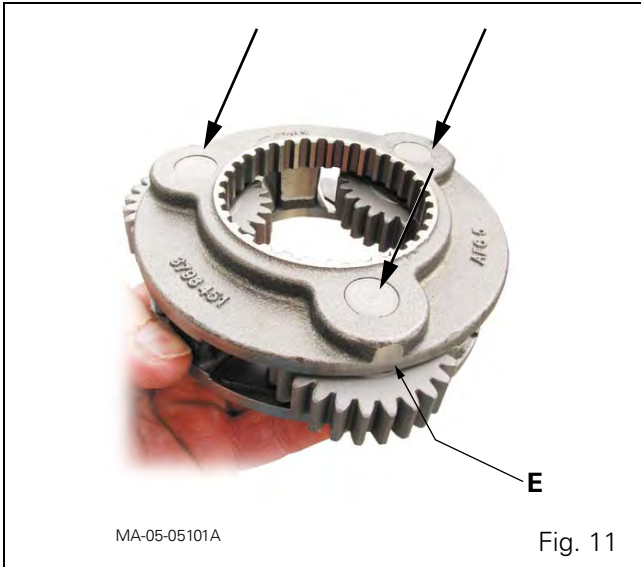

Fig. 11
20. Position the input planet carrier (1) under a press and on top of a plate pierced with a hole to allow removal of the pins (12).
21. Drive out a pin using the press and a makeshift drift ($\varnothing$ 12 mm) in the direction of the arrows (Fig. 11).
NOTE: The pin is force fitted into part E of the planet carrier (Fig. 11).